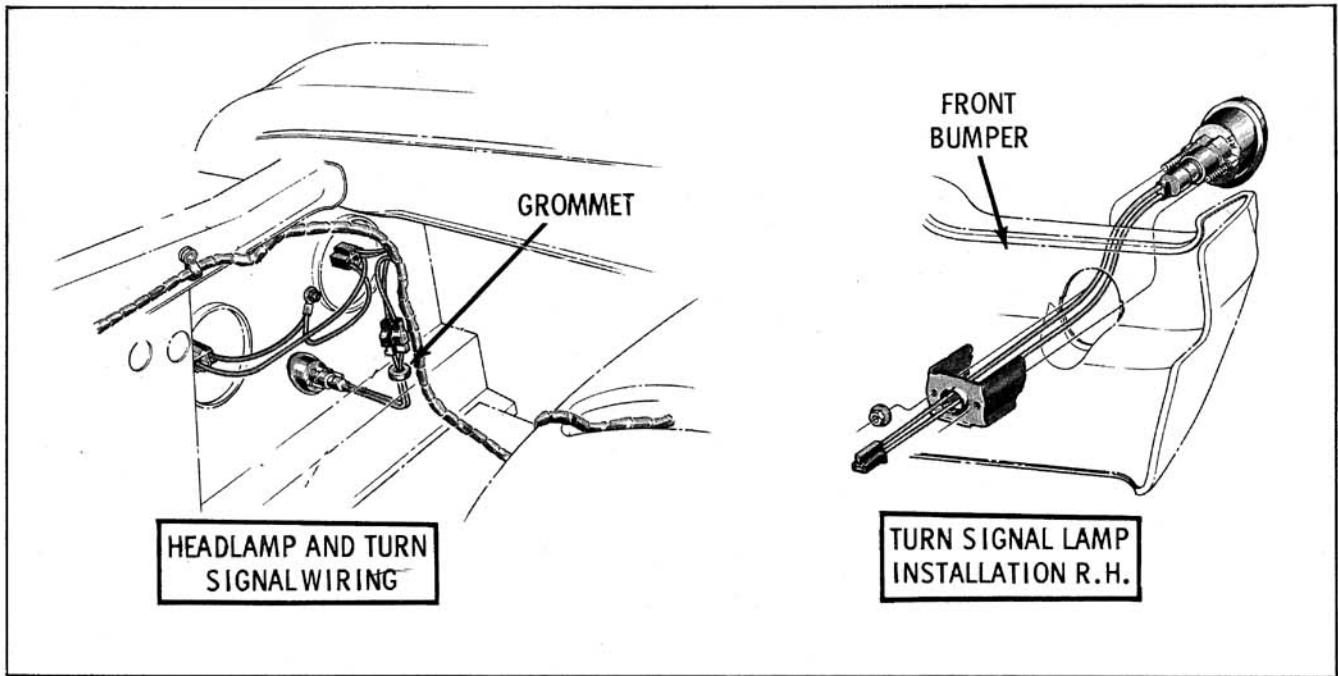

Fig. 15-105 Parking Lamp
**PARKING LAMP ASSEMBLY (Fig. 15-105)**